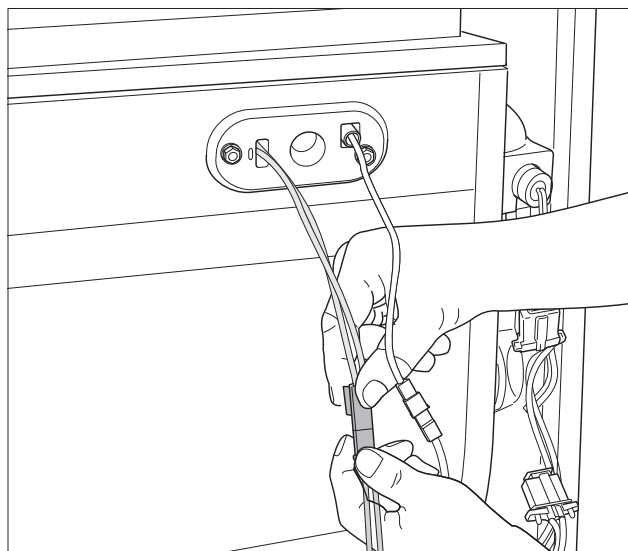
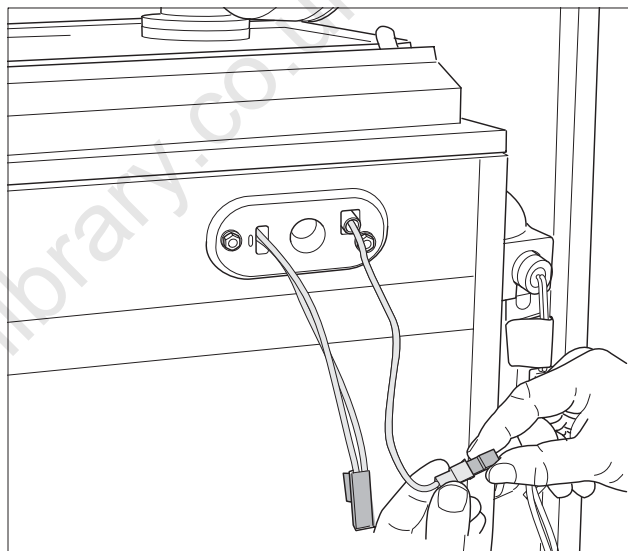

fig. 117 Removing the glow ignitor connector
fig. 118 Removing the ionisation electrode connector
- Undo the connectors for the glow ignitor (fig. 117) and the ionisation electrode (fig. 118).